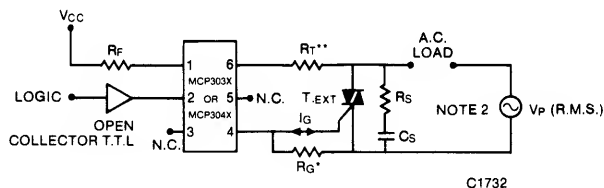

Figure 8 For Load Current I_L > 50mA RMS → Interface Via External Triac (T_{EXT})
Typical Snubber Values — Fig. 8. Circuit Driving Inductive Load:
1. MCP304X and T_{EXT} V_{DRM} ≥ 400 V recommended for 120 V Inductive Loads - Fig. 8